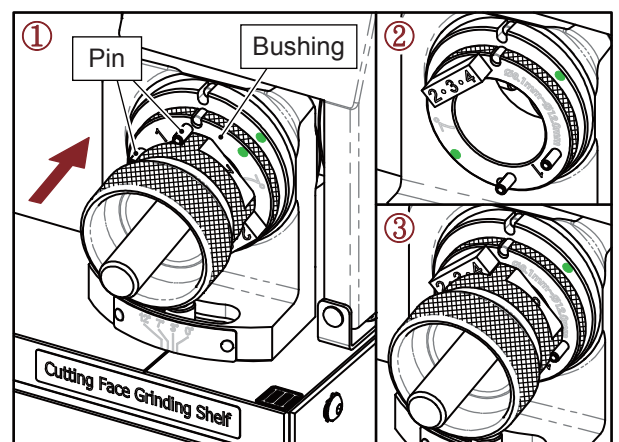

Fig. 12-3
3. 4 Flute Cutting Face Grinding (III) (Fig. 12-3)
- ① Insert the Chuck set into the bushing on Shelf (III), align Slot No.1 with the two pins where marked as No.1, gently push the Chuck set until the grinding noise stops.
- ② Take the Chuck set out, turn the bushing to No.(2·3·4), align No.(2·3·4) with the pin on the shelf, then insert it to the end.
- ③ Insert the Chuck set into the bushing, align Slot No.2 with the flat key where marked as No.(2·3·4), gently push the Chuck set until the grinding noise stops.
- ④ Take the Chuck set out and turn it to grind the Slot No.3 and Slot No.4 in the same way.